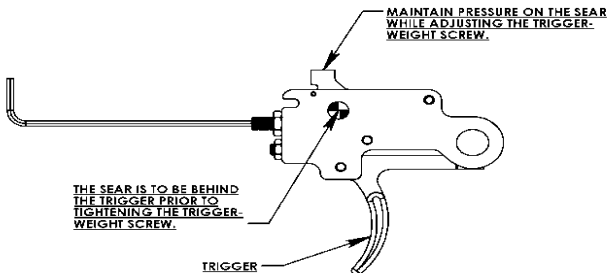

Figure 33.
2. Pull the trigger and depress the sear. (*Figure 33, Step A and B.*) Turn the trigger-weight screw clockwise until the plunger is fully compressed in the trigger-weight screw. Turn the trigger-weight screw counter clockwise ¼ turn and tighten the brass jam nut.